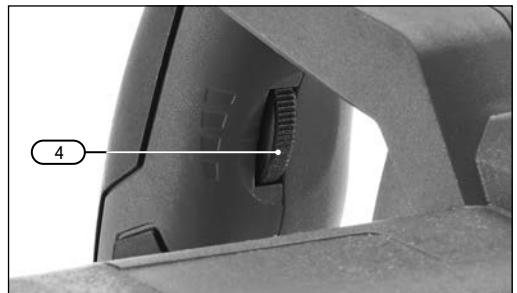

Fig. 4
7.2 Basic Mixer Operation (Fig.4)